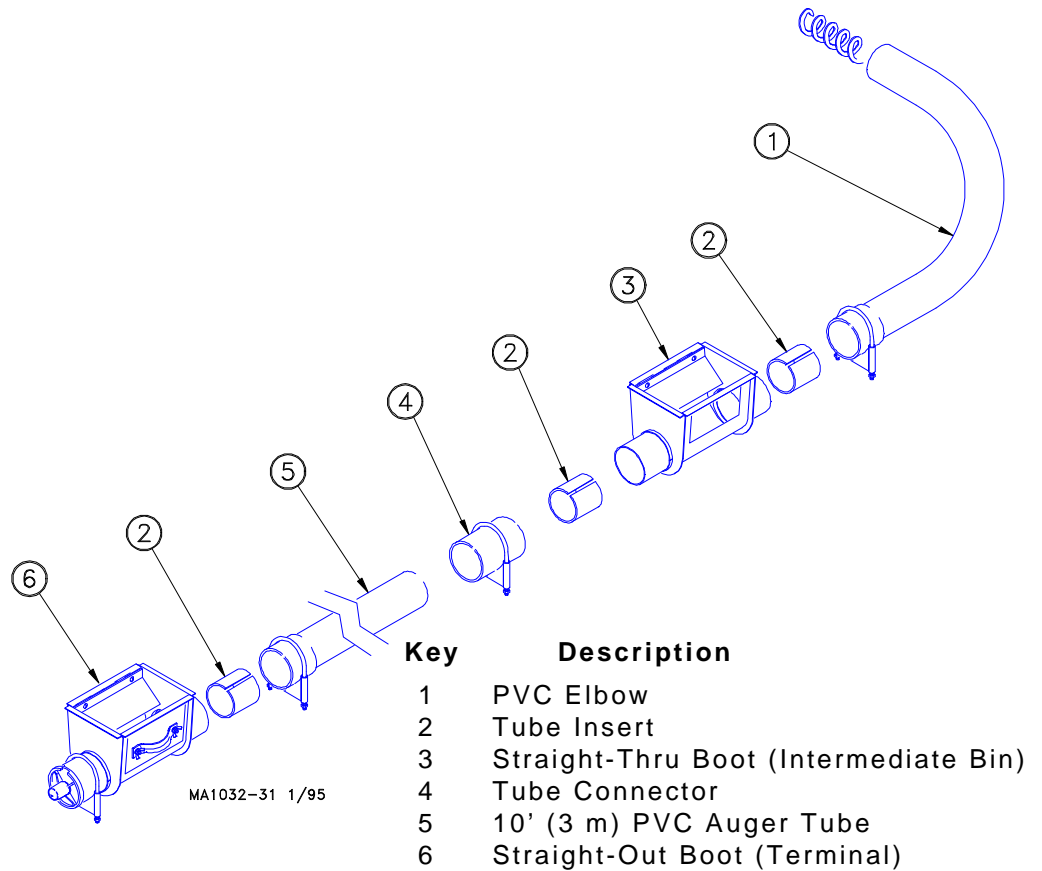

Figure 22. Model 108 PVC Straight-Thru Tandem System.
2. See Figure 22: PVC Model 108 FLEX-AUGER systems.